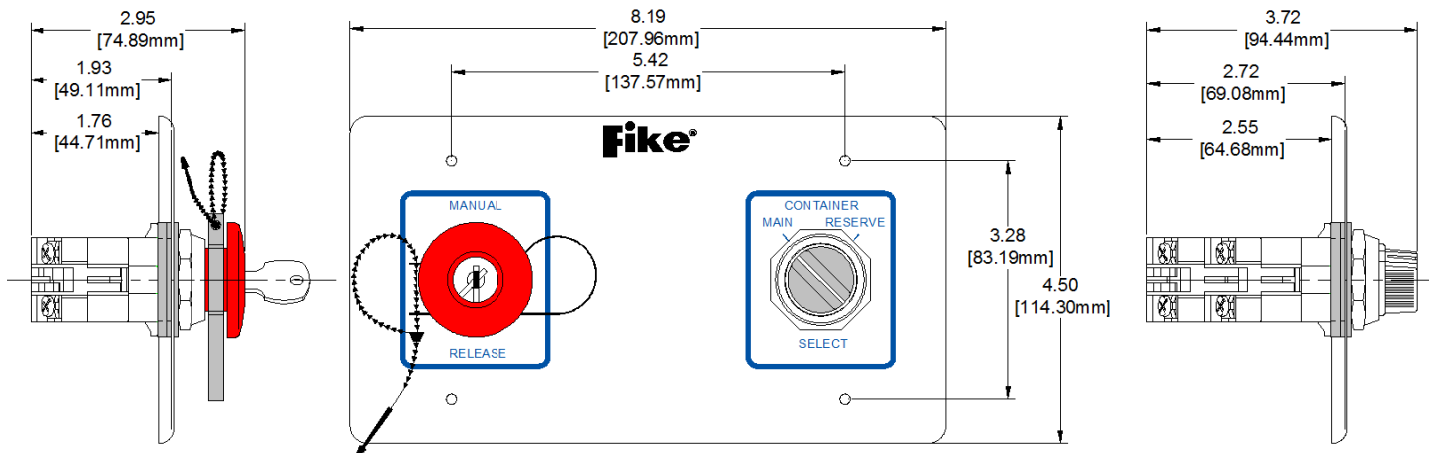

Figure 1 Switch Front and Side Views (inches/mm)
1. Remove protective plastic film from stainless steel face plate and apply the adhesive label, oriented as shown in Figure 1.
1. Apply adhesive label to the stainless steel face plate, orientated as shown in Figure 1.